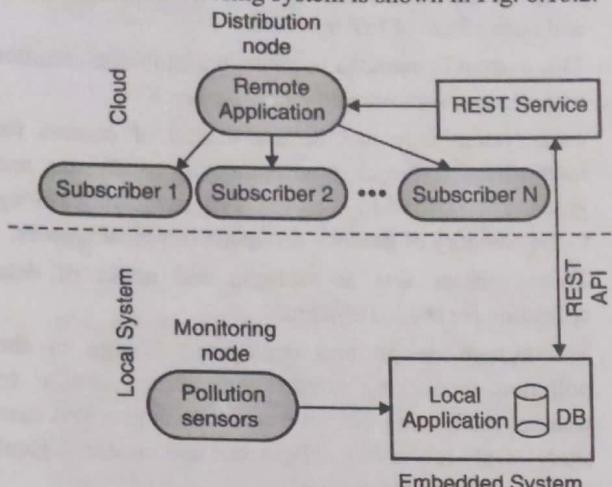

Fig. 6.10.2 : Deployment diagram for pollution monitoring system
- The possible deployment diagram of the pollution monitoring system is shown in Fig. 6.10.2.